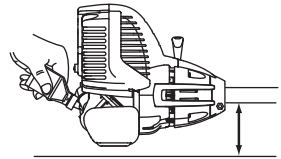

Fig. 7
2. Place the unit on a flat level surface (Fig. 7).
4. Pour the entire bottle of oil into the oil fill hole (Fig. 7).